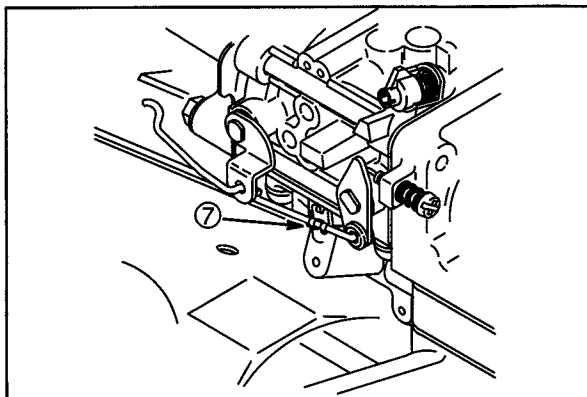

Fig. 18
4. Unhook governor link spring (7) from throttle lever. Disconnect governor link, **Fig. 18**.